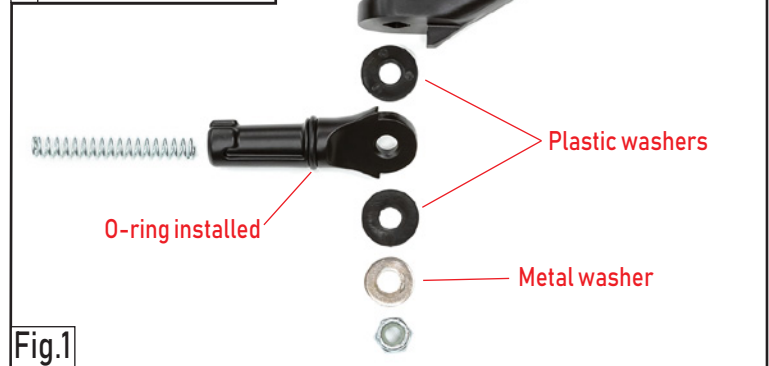
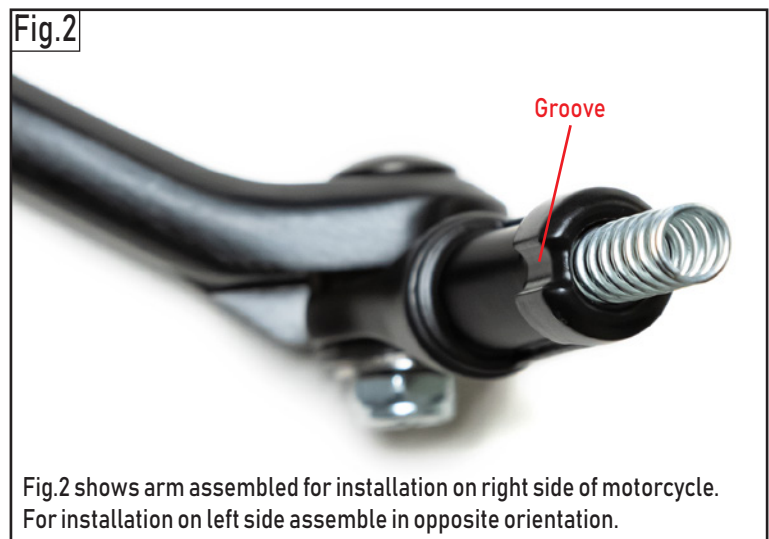

Fig.1
Fig.2
3. Assemble the Passenger Phone Mount with the included hardware. The base is directional, the groove on the base needs to face the same direction of the arm in its final position, Fig.2. Insert the carriage bolt through the arm, put a plastic washer between the arm and base, followed by the other plastic washer, then the metal washer and locknut. Order shown in Fig.1.
5. Install O-ring onto mount base, Fig.1. Insert spring into mount base.
Fig.2 shows arm assembled for installation on right side of motorcycle. For installation on left side assemble in opposite orientation.